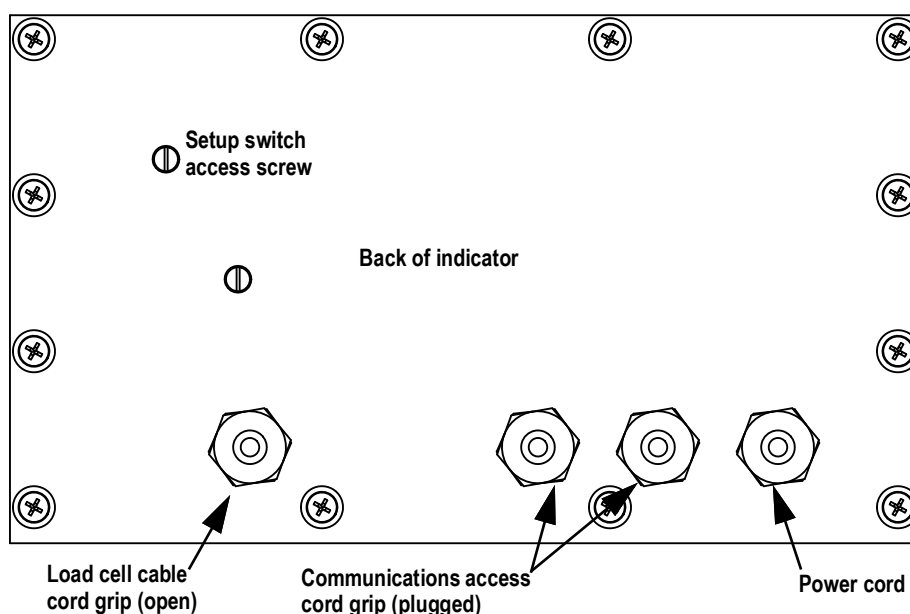

Figure 2-1. Recommended Cord Grip Assignments
1. Remove the setup switch access screw from the back of the enclosure, See Figure 2-1 on page 18.
The 480 provides four cord grips for cabling into the indicator: one for the power cord, three to accommodate load cell, communications, digital inputs and outputs, and analog output cables. Two of the three free cord grips come with a plug installed to prevent moisture from entering the enclosure. Depending on the application, remove the plug from another cord grip that will be used and install cables as required. See Figure 2-1 for the recommended assignments for the 480 cord grips.